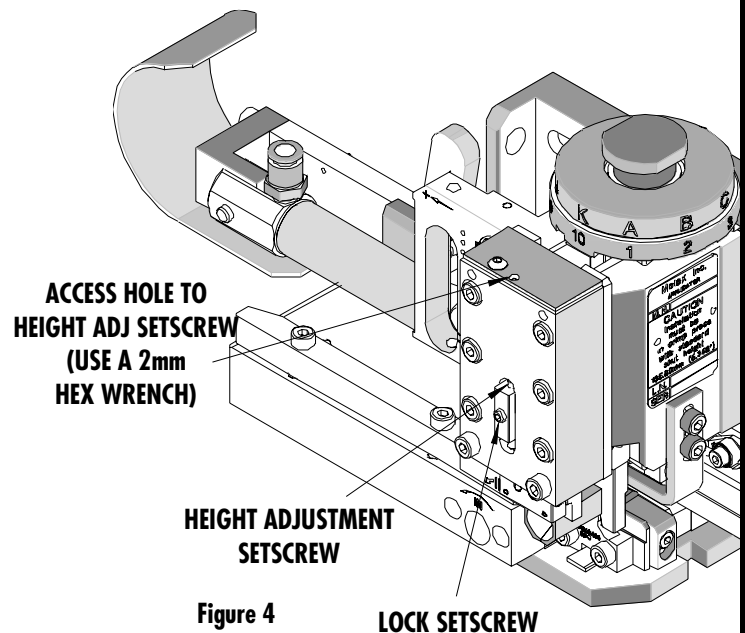

Figure 4
3. The height adjustment screw is accessed through the hole on the top of the funnel slide. Using a 2mm hex wrench, turn the adjustment screw clockwise to raise the funnel or counterclockwise to lower the funnel. Proper adjustment should result in the insulation guide hole being concentric with the terminal barrel. See Figure 4.